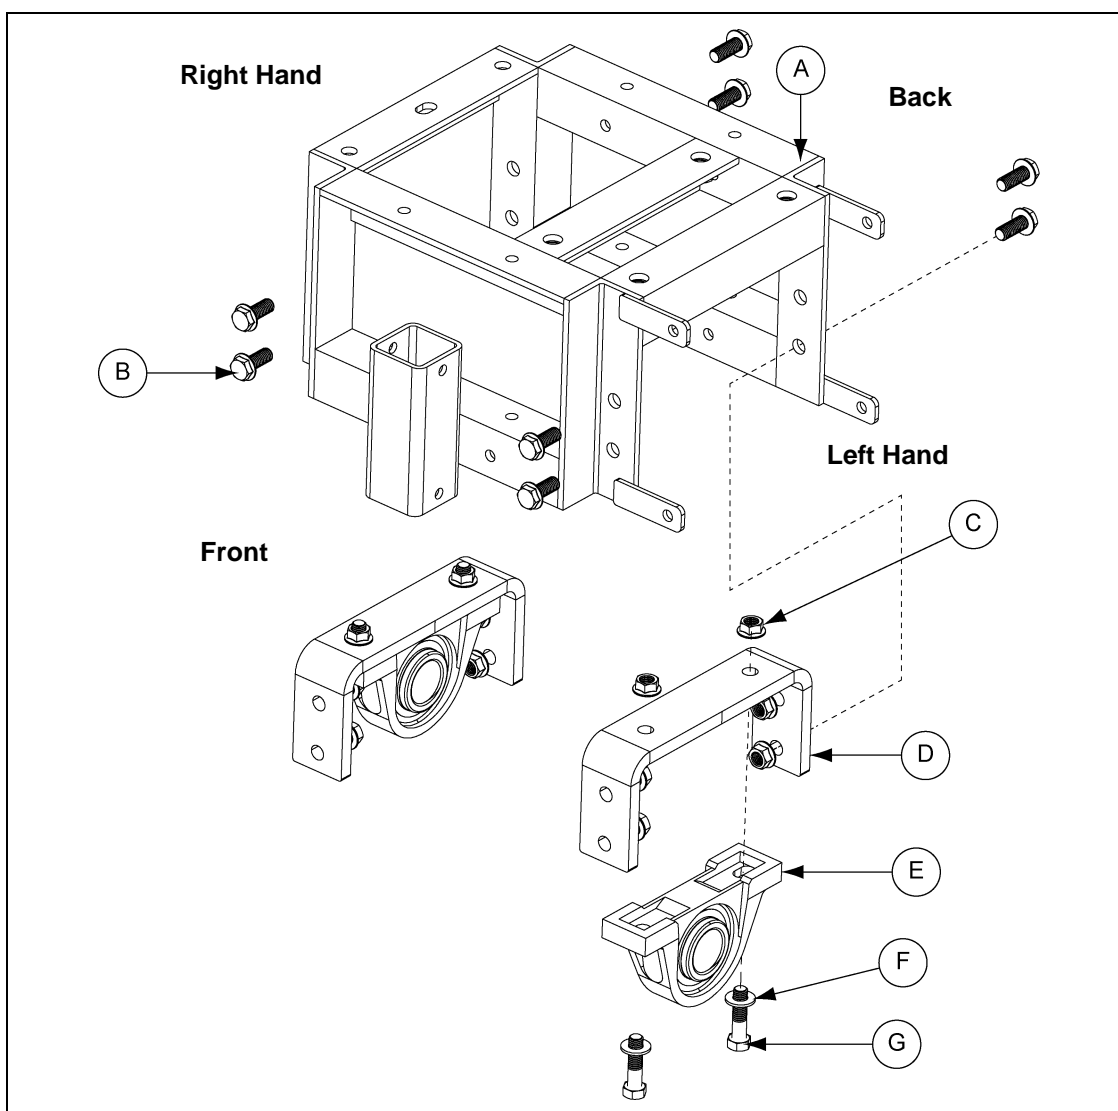

Figure 4P
1. Place the tractor frame (A) on plain flat ground.
2. Bolt each pillow block bearing (E) to a bearing mount bracket (D) using two (2) 1/2"-13 x 2" hex head cap screws (G), two (2) flat washers (F) and serrated flanged nuts (C).
3. Bolt each bearing mount bracket (D) to the tractor frame (A) using two (2) 1/2"-13 x 1-1/4" flange bolts (B) and serrated flanged nuts (C). (*See Figure 4P.*)